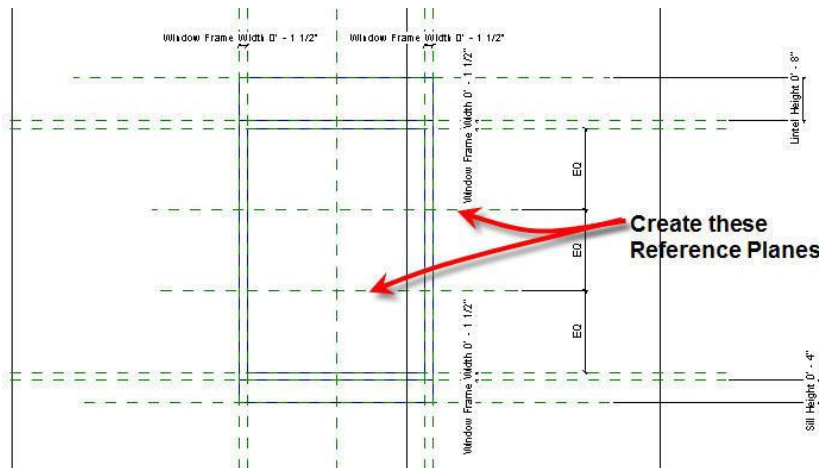

Figure 37. Creating the muntin centerline Reference Planes.
2. Create the Reference Planes shown in Figure 37, along with the equality constraint dimensions shown, using the procedures described earlier in this tutorial.